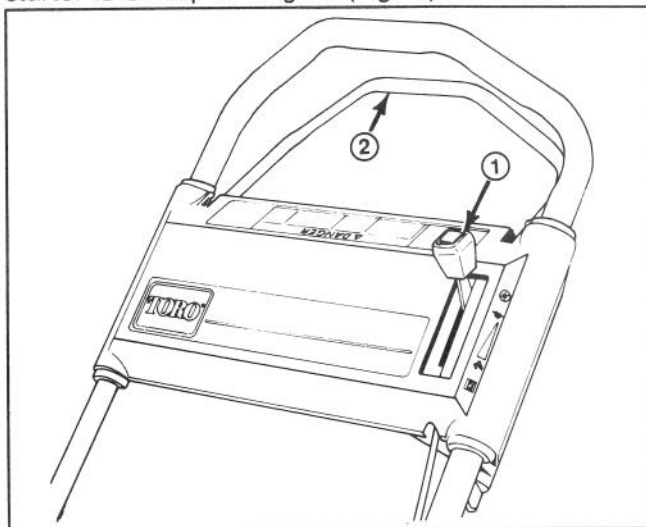
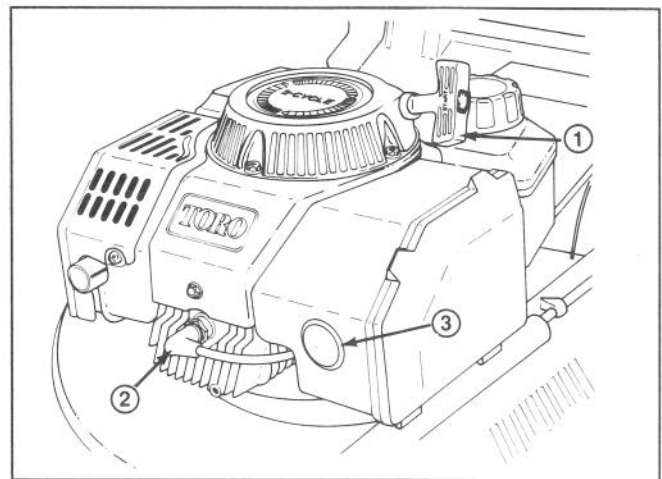
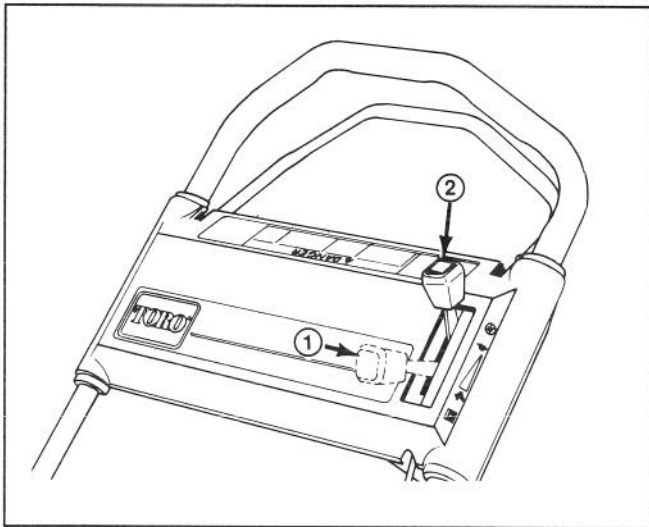

Figure 7
Figure 8
Figure 9
CONTROLS—Throttle and self-propel control bar (self-propelled model) are on upper handle (Fig. 7). Primer is on front of engine, and recoil starter is on top of engine (Fig. 8).
1. STARTING—Push spark plug wire onto spark plug (Fig. 8). Move throttle forward to CHOKE position (Fig. 9).
3. Pull engine mounted recoil starter (Fig. 8) out until slack in rope is taken up. Then pull vigorously to start the engine. When engine starts, move throttle rearward to FAST position or regulate engine speed as desired.
NOTE: If engine does not start, move throttle to ENGINE OFF position (Fig. 9) and wait 3 seconds. Then repeat steps 1-3 until engine starts.
4. STOPPING (Fig. 9)—To stop engine, move throttle rearwards to ENGINE OFF position. Pull wire off spark plug if mower will be unattended or not used.
1. Stop the engine and pull wire off spark plug (Fig. 8).
4. Move throttle control to OFF (engine kill) position (Fig. 9).